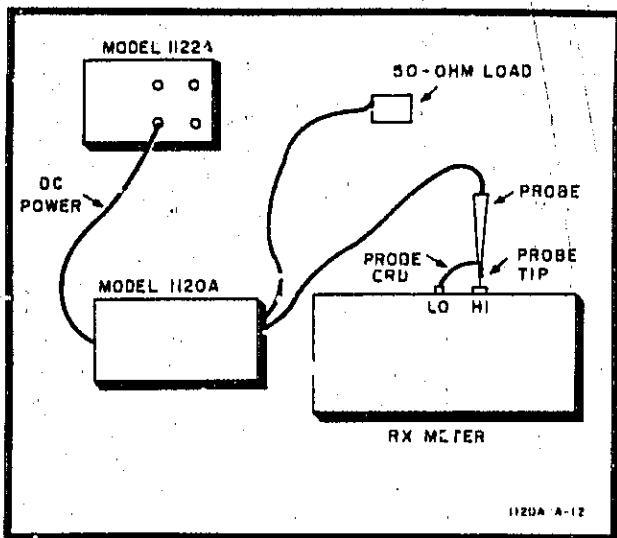

Figure 14. Input Capacitance Test Setup
31. Connect the equipment as shown in figure 14 for Input Capacitance check.